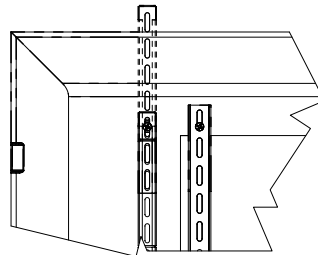

Figure 10 - Adjusting height of bracket
5. Position bracket with flat side facing display. Align appropriate slot with the hole depending on your height requirement (figure 10). Use only the top five (5) slots.